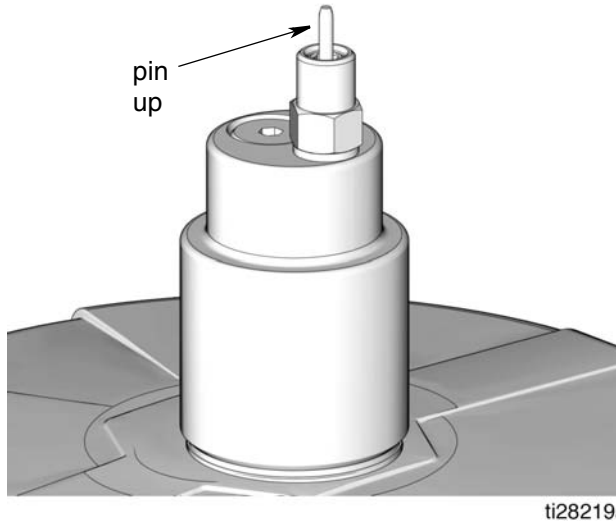

FIG. 27
3. Remove yellow Dust Cover from Fill Coupler (M).
4. Connect Supply Hose (J) between the Remote Filling Station Pump (F) and Fill Coupler port marked with an "I".
5. Start Remote Filling Station Pump (F).
6. When the G3 Reservoir (D) is filled:
- the Remote Filling Station Pump (F) stalls (dead-heads),
- the Auto-Fill Shut Off (B) pin pops up as shown in FIG. 27,
- the Pressure Gauge (R) rises to the fill pump's set pressure.